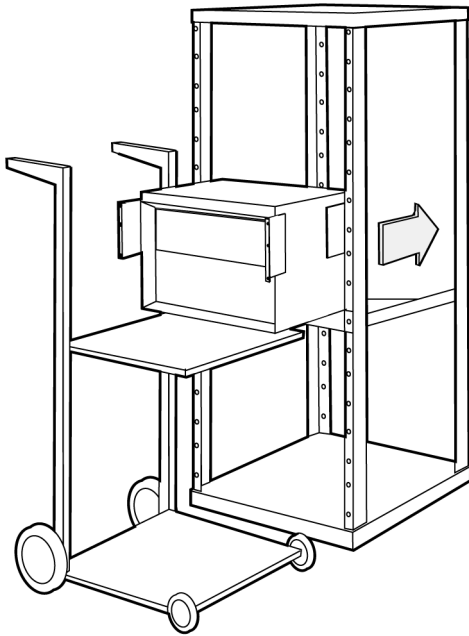

Figure 24 Positioning the switch in the rack
1. Carefully position the switch in the front of the rack and onto the rail tray, and slide the switch back on the rails until the front mounting brackets are against the front rack columns. Figure 24 illustrates using a lifting jack to position the switch.